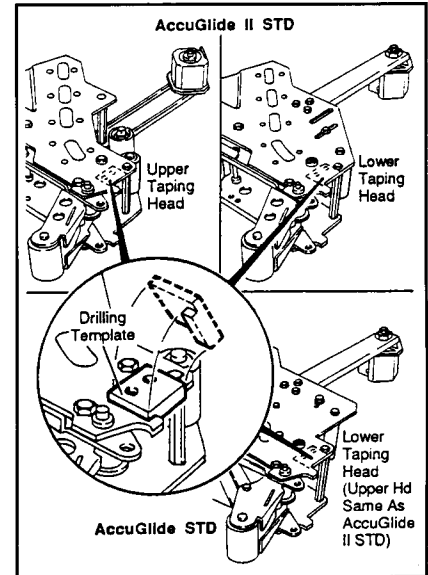

Figure 2
3. Place the drilling template provided in sensor kit, on the side plate of the taping head as shown in Figure 2.